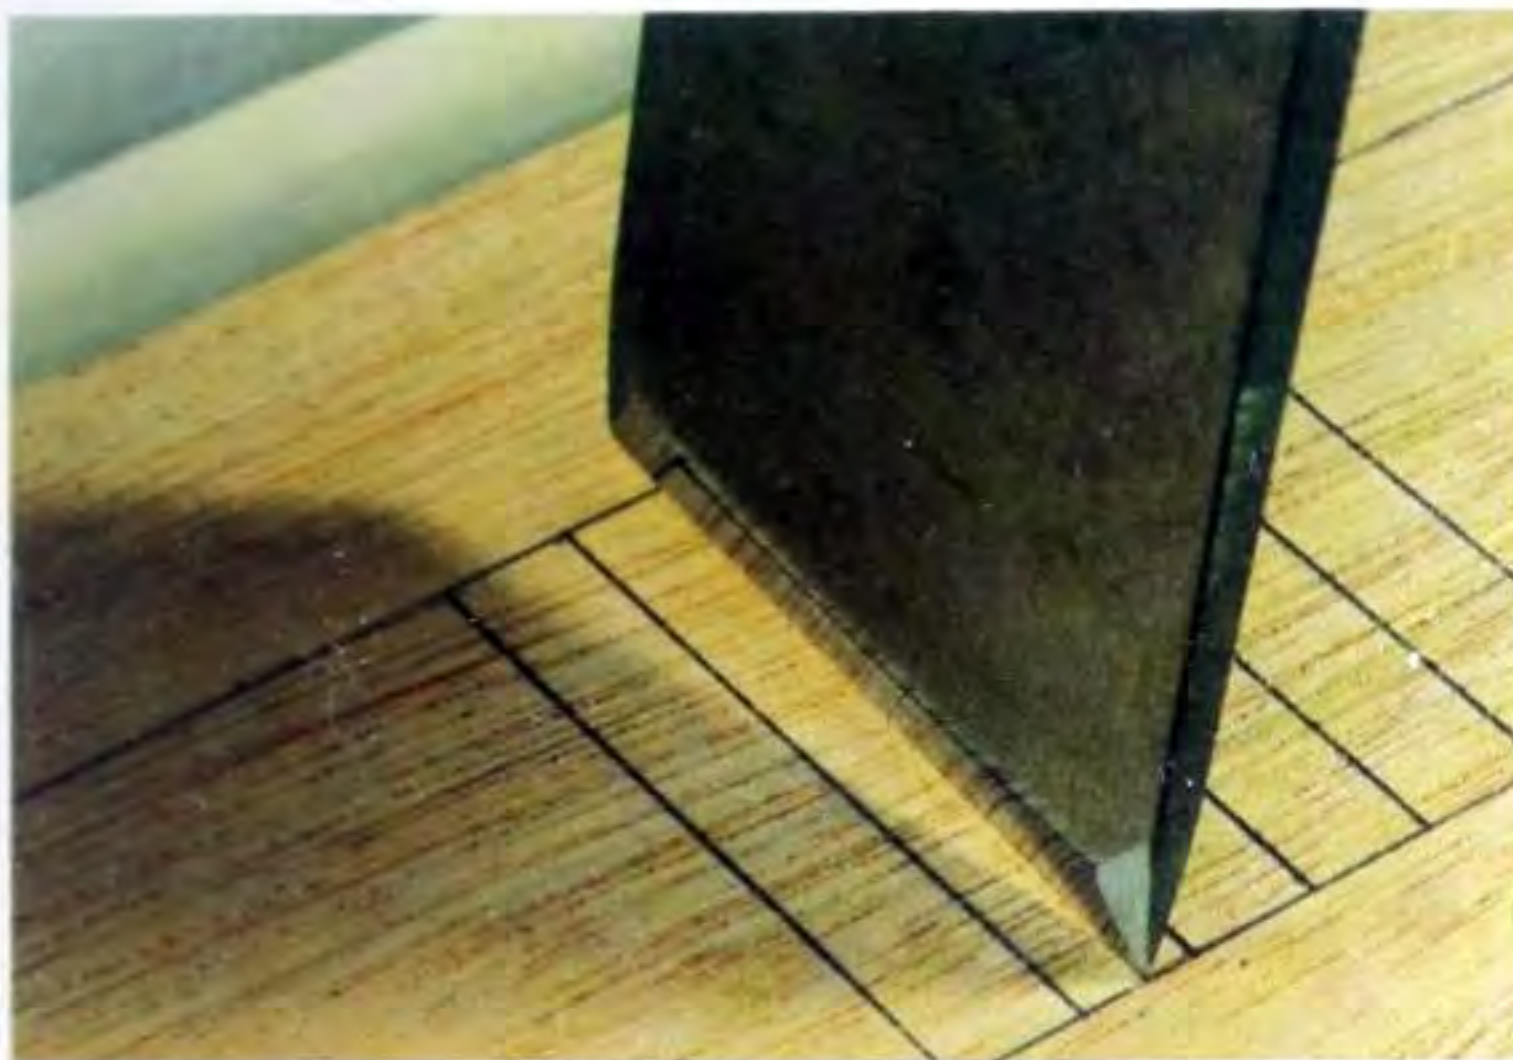

Fig 5.8 Position the near corner halfway between the lines and lower the edge to bisect the space.
- 5 Draw another series of parallel lines, and this time place the chisel edge exactly *between* the lines. The best way is to place one corner of the chisel edge half-way between the lines first, and then position the other corner so that the cutting edge lies exactly in the middle of and parallel to the two lines (see Fig 5.8). You will need to look to either side of your chisel hand to position the blade, so that when it comes to striking the chisel, make sure the handle is still upright.